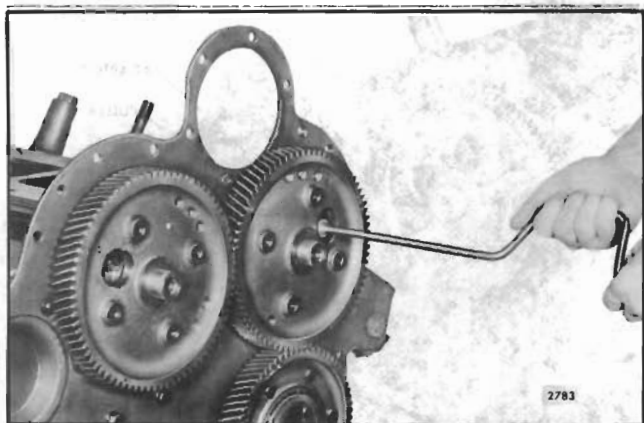

Fig. 4 - Removing or Installing Camshaft End Bearing Retaining Bolts
16. Rotate the camshaft gears as required to reveal the camshaft end bearing retaining bolts. Then remove the bolts as shown in Fig. 4.